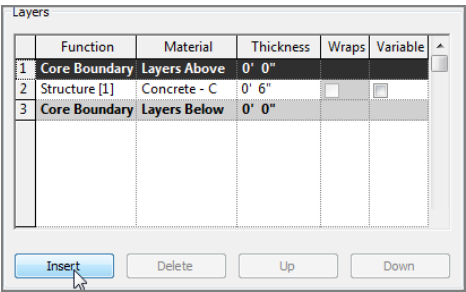

FIGURE 6.38: Adding a new layer
- 11. In the Edit Assembly dialog box, click the 1 button to the left of the Core Boundary item that is above the Structure layer, as shown in Figure 6.38.
- 12. Click the Insert button (see Figure 6.38).